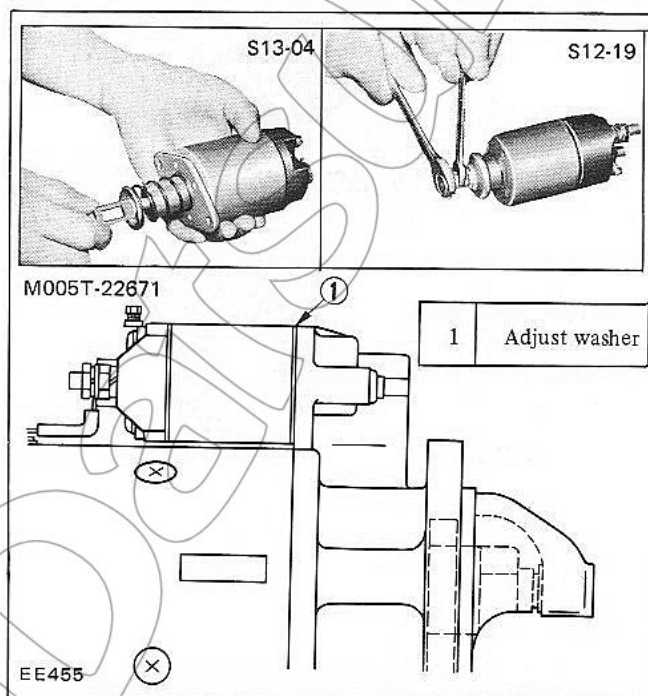
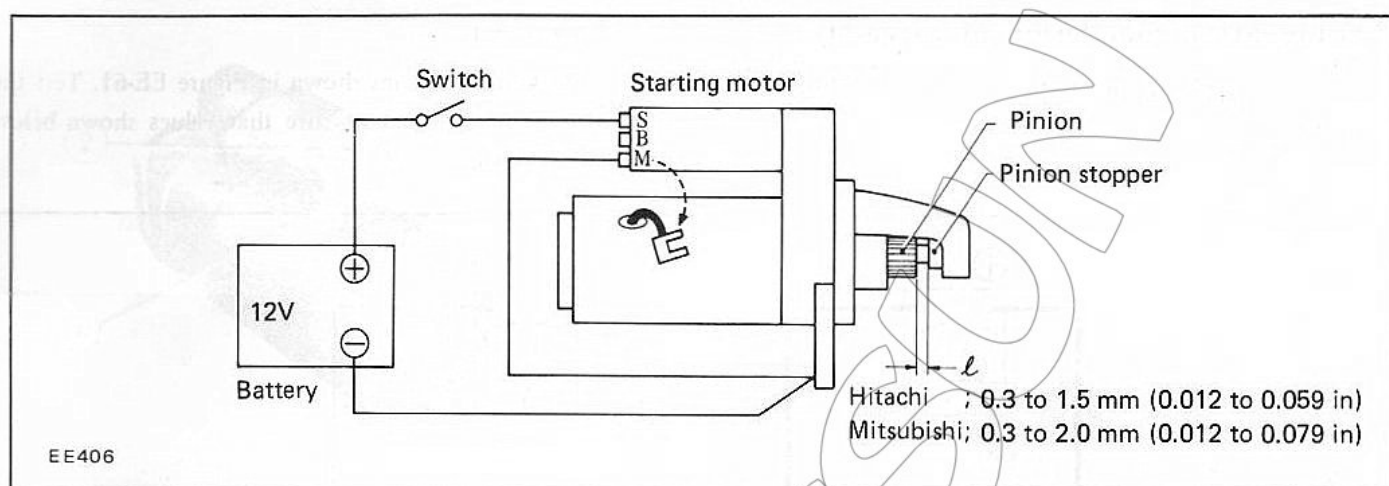

Fig. EE-60
Fig. EE-62 Circuit of magnetic switch assembly test
3. If the gap is not correct, readjust the gap (Refer to Figure EE-60).
1. Connect starting motor in series with battery and switch as shown in Figure EE-62.
3. With switch on, push pinion back to remove all slack and measure the clearance " " between pinion front edge and pinion stopper. The clearance should be held within 0.3 to 1.5 mm (0.012 to 0.059 in) for Hitachi S12-19K, S13-04K, and 0.3 to 2.0 mm (0.012 to 0.079 in) for Mitsubishi M005T-22671. See Figure EE-62. If necessary, adjust (Refer to Figure EE-60).